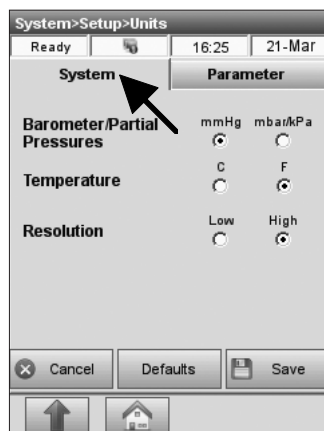

Fig. 3-67 System
3. In the **<System>** screen, select the units for the displayed parameters (Fig. 3-67).